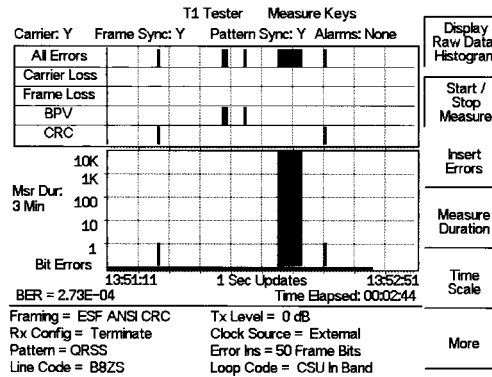

Figure 7-9. T1 BERT Measurement Display with Errors Inserted
- Step 9.** To insert a setup error, press the Insert Errors soft key to inject errors in the transmit signal. Figure 7-9 displays the T1 measurement when errors are inserted. The errors are displayed on the right side at the bottom of the display.